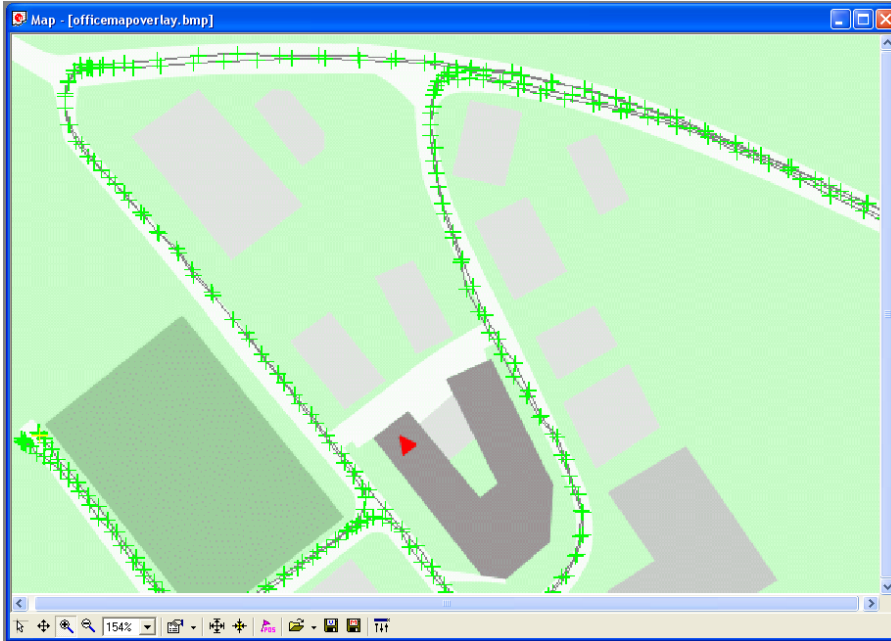

Figure 30: Logfile from a road test
- Now, the stored positions are displayed (Figure 30).